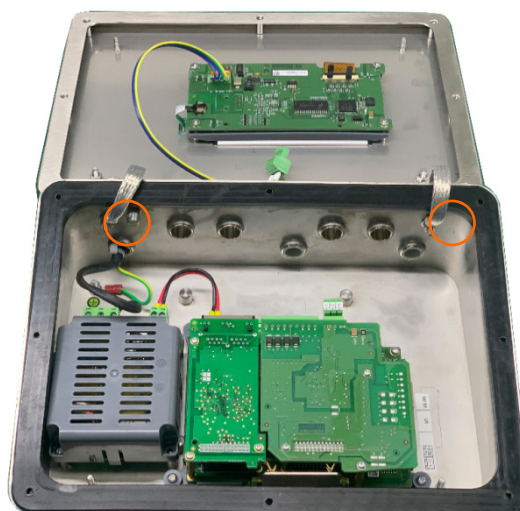

Figure A-22: Front Panel Reversed
- c. Carefully rotate the front cover 180 degrees and reattach the two grounding straps to the two studs near the grip bushings using the two nuts removed in the previous step as shown in Figure A-22. Tighten the two nuts.